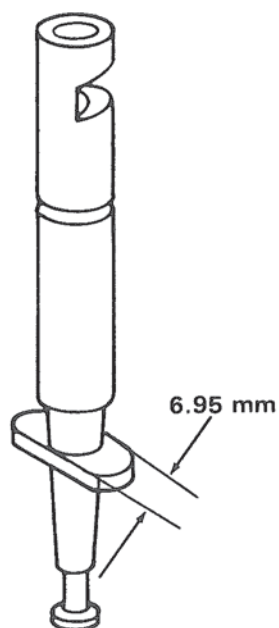

Figure 35. Checking Plunger Tab.
3. Measure width of tab on plunger. Replace if less than 6.95 mm. (.273 in.). Figure 35.